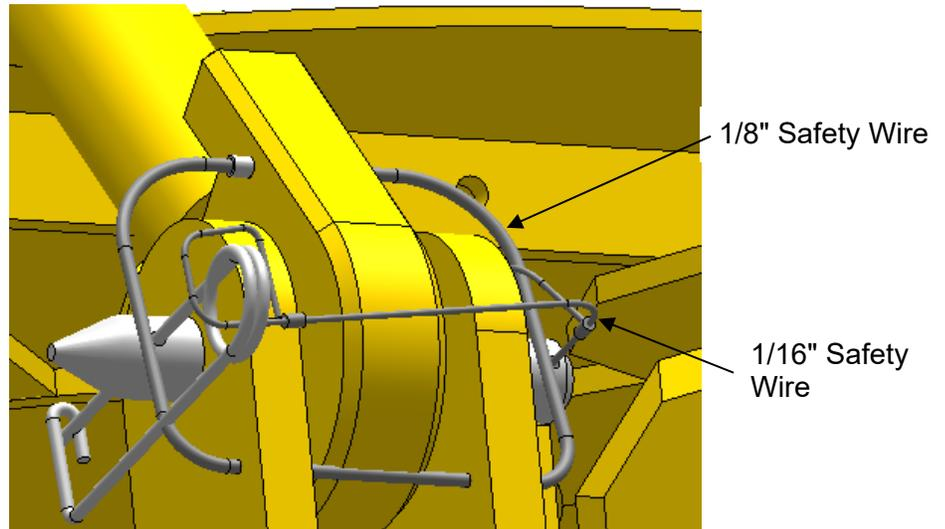

Figure: 4.15 Routing safety wire
- Secure each end of the blower support arm by looping the 1/8" wire rope through the top drive guard pad eye and crimp the ferrules as shown in Figure 4.15.